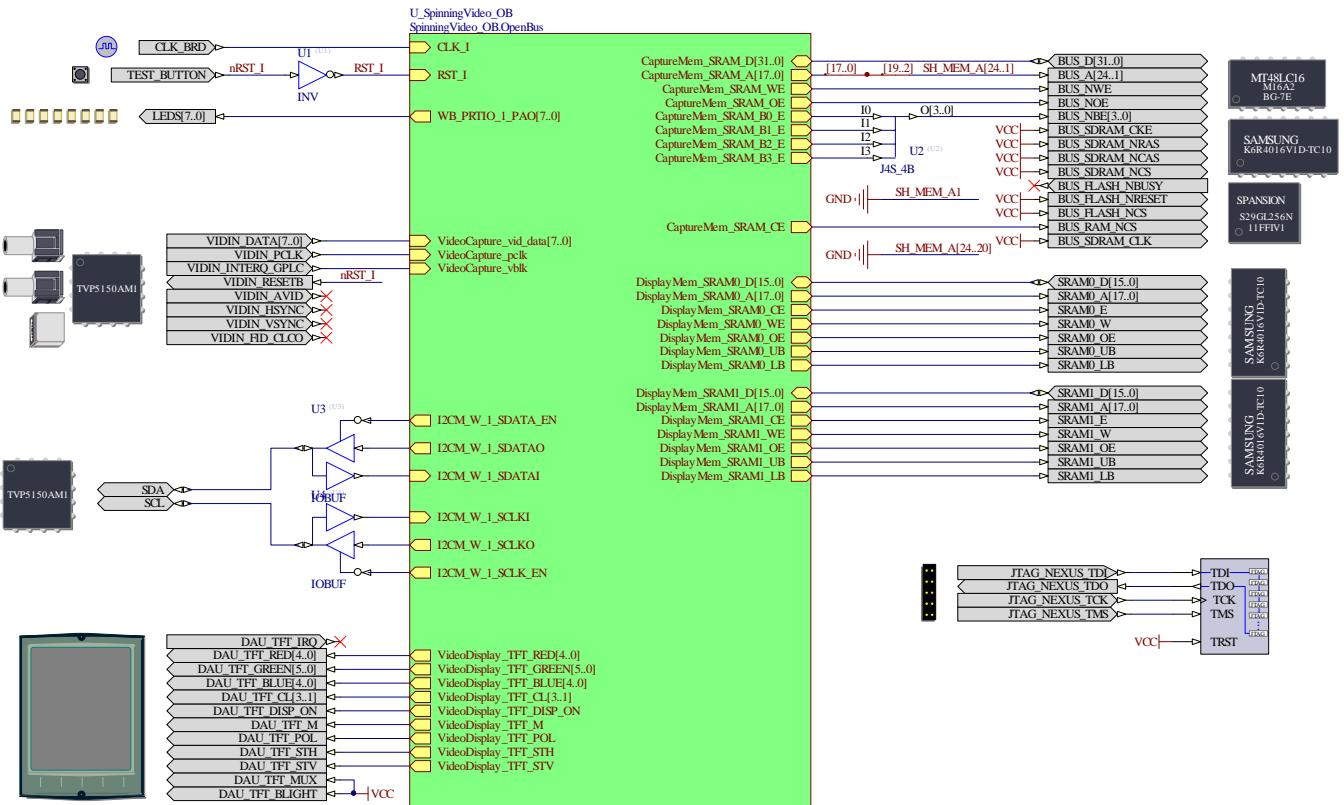

Figure 13. The Completed top-level schematic Constraining the Design
4. A completed version of the SpinningVideo\_FPGA.SchDoc schematic is given in Figure 13. Use this as a guide to position the port plugin components around the sheet symbol and then reorder the sheet entries so that they will line up nicely with them.